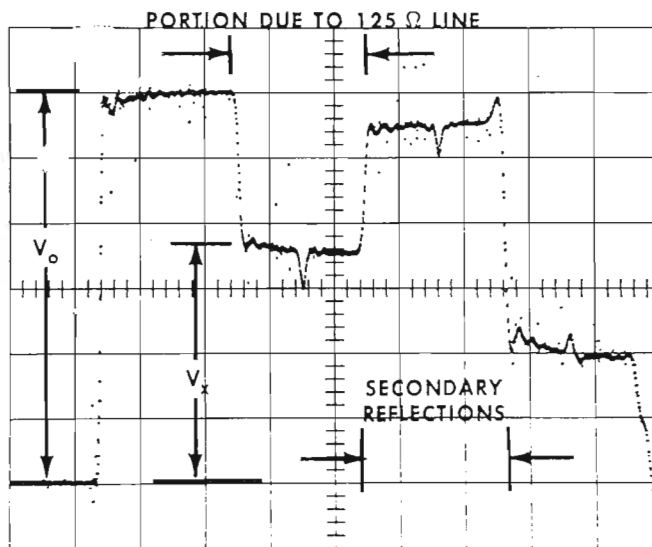

Fig. 4. Waveform obtained with 125-ohm cable and 50-ohm system.
2. Observe the incident and reflected pulses on the oscilloscope. Using Fig. 4 as a guide, determine the values of V_o (incident) and V_r (reflected). (This method is generally limited to the first reflections unless the deviations are small, due to multiple reflections and reflection losses.)